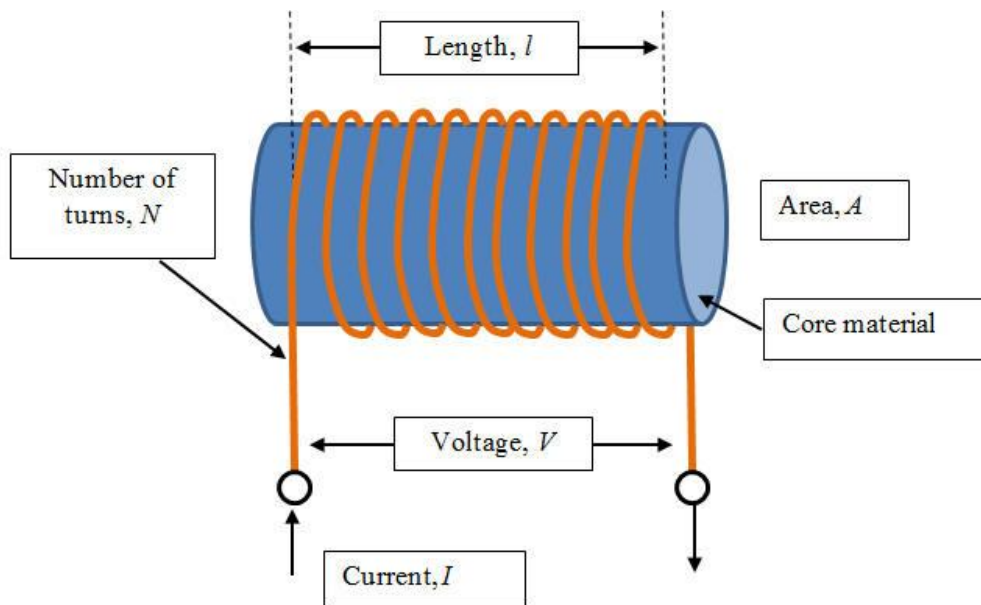

Figure 132 A simple inductor
The inductance of an inductor is the property by which the inductor induces a voltage in itself in response to a **changing** current. It has the Physics code L and is measured in Henrys (H). Consider a simple inductor, which is a coil of wire wrapped around a cylindrical piece of core material, which might not even be magnetic (*Figure 132*).